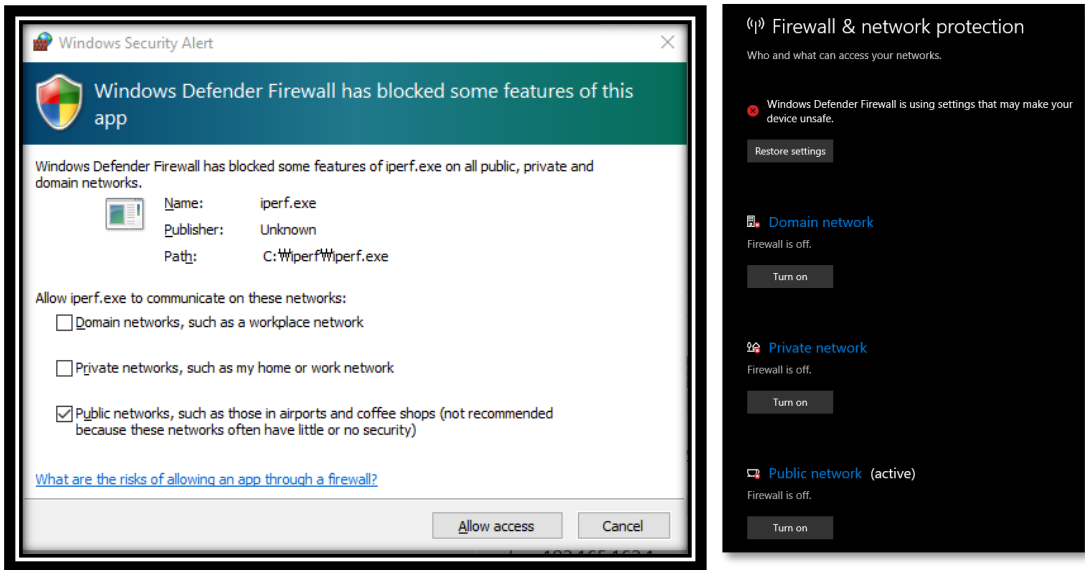

Figure 48. Disable firewall for iPerf test
3. To ensure stable iPerf testing, run the Windows Security APP and turn off the network firewall. Renesas recommends disabling the laptop from all network firewalls before attempting a test as shown in Figure 48.